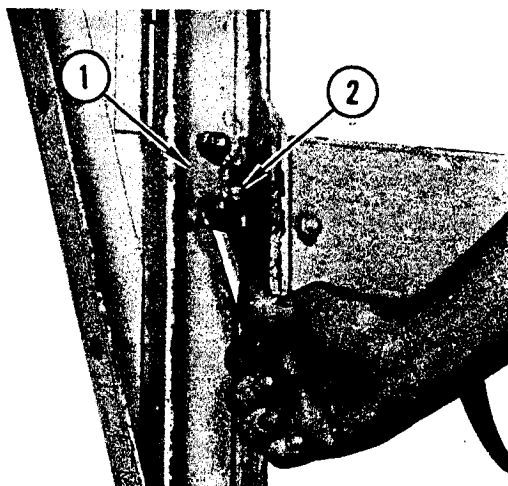

FIGURE 8. DOOR LATCH ADJUSTMENT
With door closed, move latch plate (1) toward door until lock pawl (2) extends 1/4" to 3/8" over plate, Figure 8. Tighten nuts.